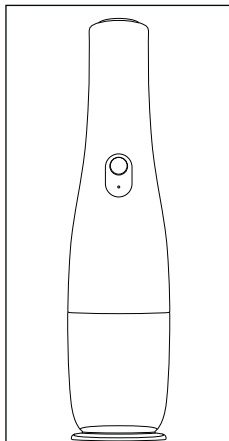

Fig. 5
6. For storage, stand the appliance on the cap ❶, which can also be used as a stand (see Fig. 5).